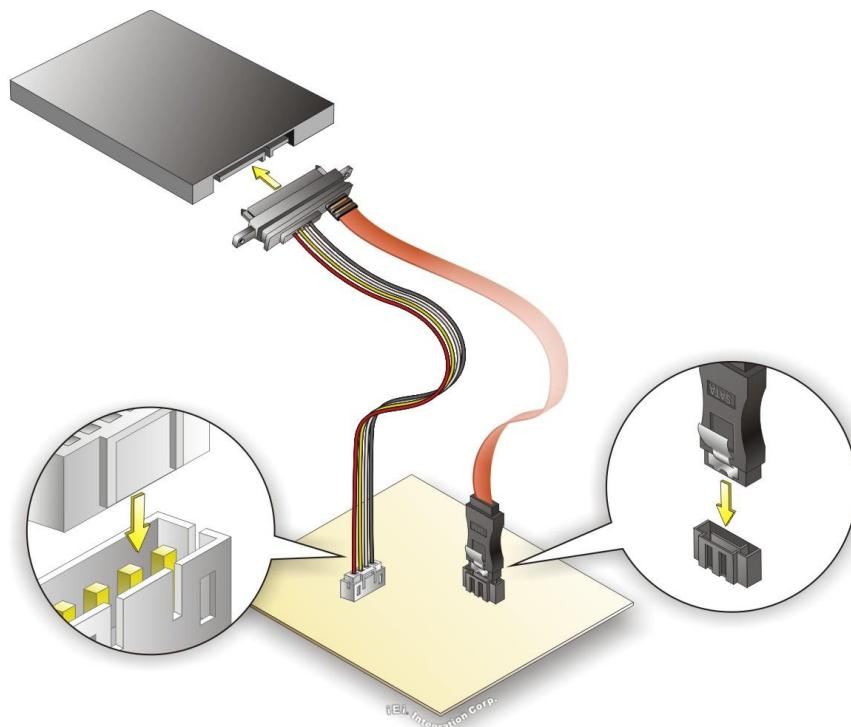

Figure 4-7: SATA Drive Cable Connection
Step 2: Insert the cable connector. Insert the cable connector into the on-board SATA drive connector and the SATA power connector. See **Figure 4-7.**
Step 3: **Connect the cable to the SATA disk.** Connect the connector on the other end of the cable to the connector at the back of the SATA drive. See **Figure 4-7**.